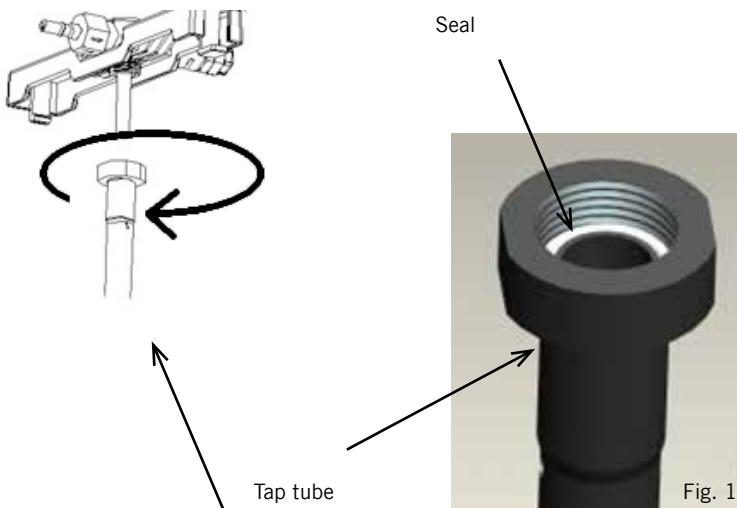

Fig. 16
11. Twist off the tap tube as shown in Figure 16.